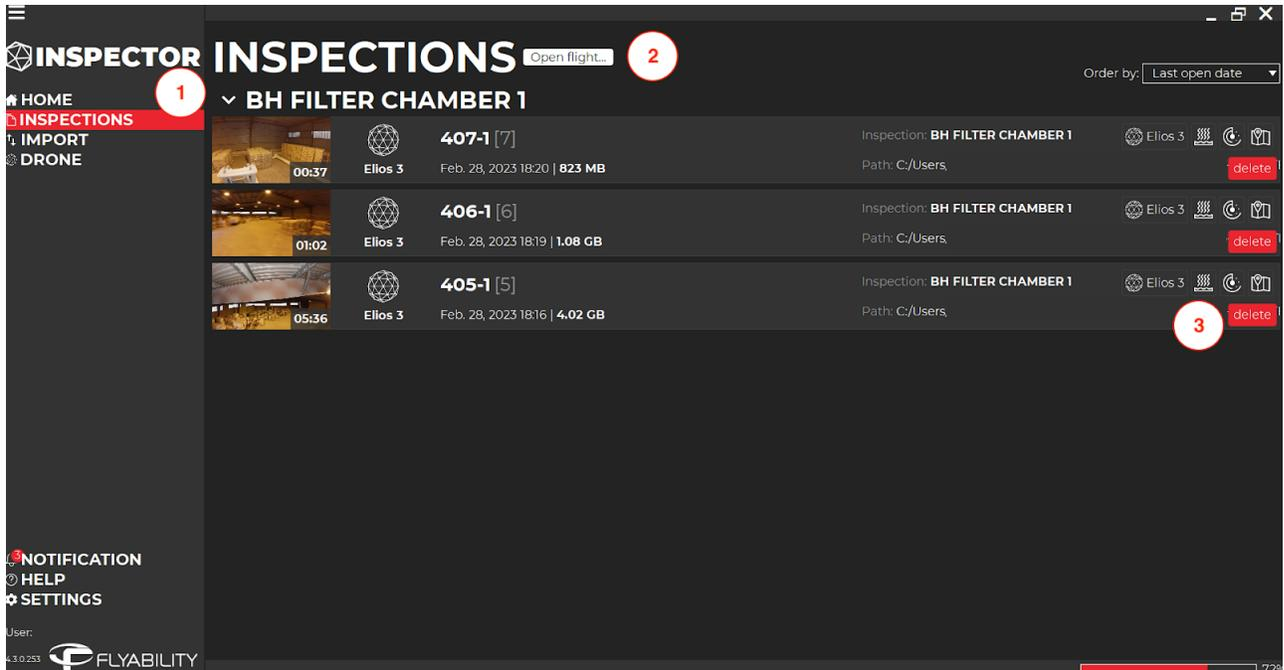

Figure 4: Inspector 4 Inspections Screen
This is a list of inspections which have been opened or imported on your computer, as shown in figure 4 as (1). Flights can be sorted according to: last open date, flight date, or flight name.
If the flight you are looking for is not shown in the list, then you can use this button to browse for it on your computer, as shown in figure 4 as (2).
This is a list of the features utilized during the flight, as shown in figure 4 as (3). For more information on each symbol and icon: when hovering over an icon, a text box displays information about that element as a description.